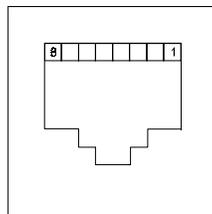

Fig. 2: RJ-45 Modular Plug Front View
3. Connect ends of wires as directed in Table 2, referring to Fig. 2.